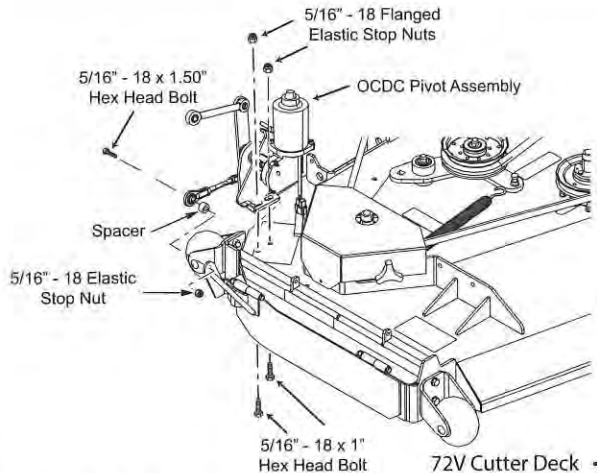

Figure 3-19. 72V OCDC Pivot Assembly Install
18. Install the E-OCDC pivot assembly to the cutter deck. Secure using two (2) 5/16-18 x 1" bolts and two 5/16-18 flanged elastic stop nuts. See Figure 3-19.